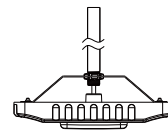

Figure 7
- 2.Unscrew the nut from customer supplied 3/4"NPTstem, make the stem hole on mounting bracket through 3/4"NPT stem, then screw the nut back to 3/4"NPT,and fix it.(Figure 7)